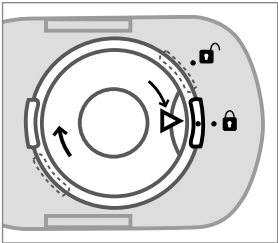

Fig. 3
5. Put on a cover on the inhalation chamber and close it turning clockwise so that to make mark «» point to «» (Fig. 3).